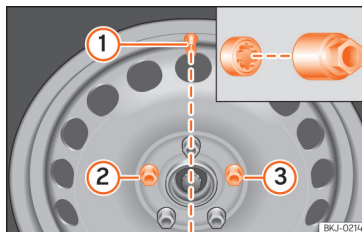

Fig. 197 Tyre change: tyre valve ① and the correct position for the anti-theft wheel locking bolt ② or ③.
On wheels with integral hubcaps, the anti-theft wheel locking bolt must be screwed in the positions **»» Fig. 197 ②** or **③**, taking as reference the position of the tyre valve **①**. Otherwise it will not be possible to mount the hubcap.